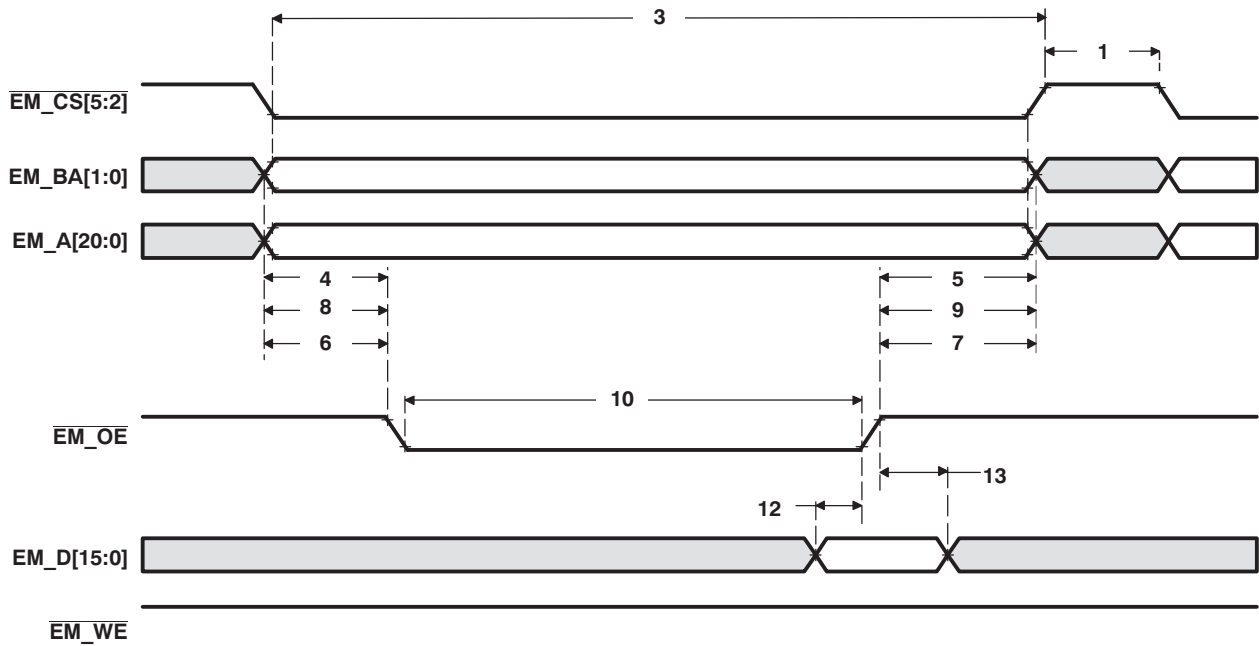
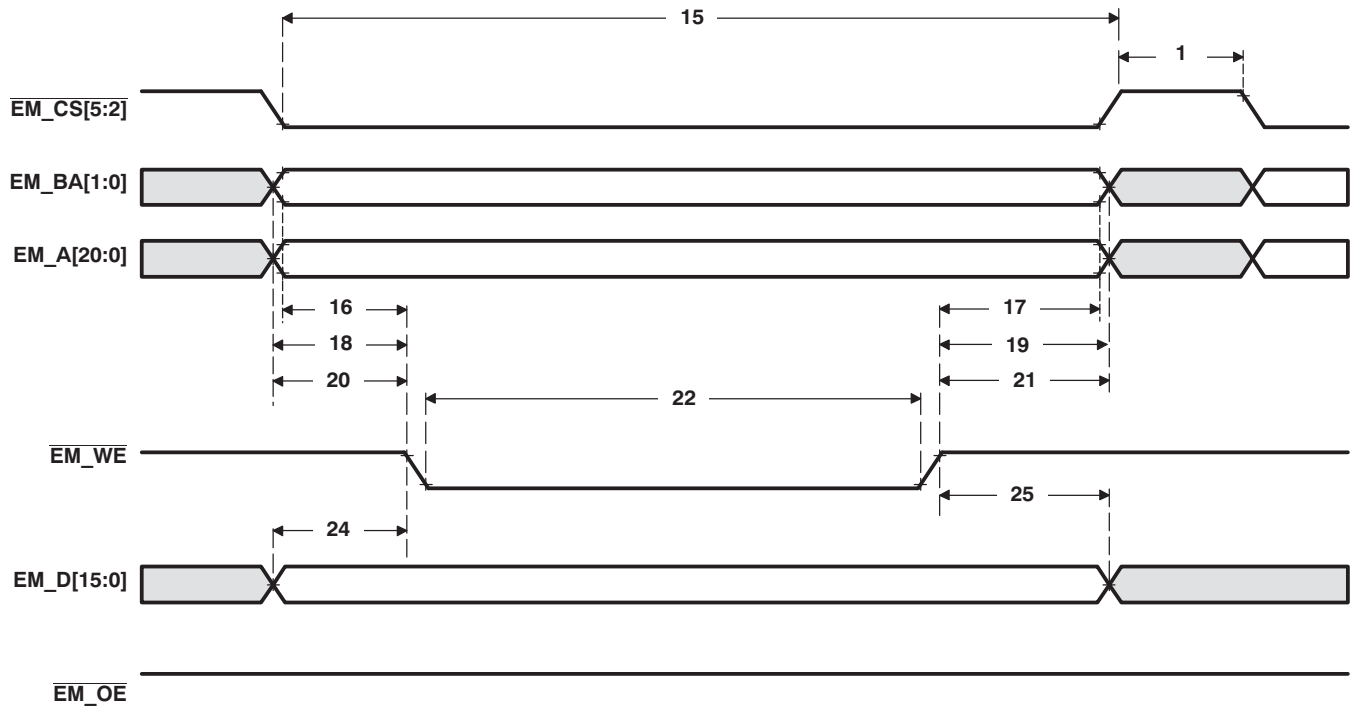
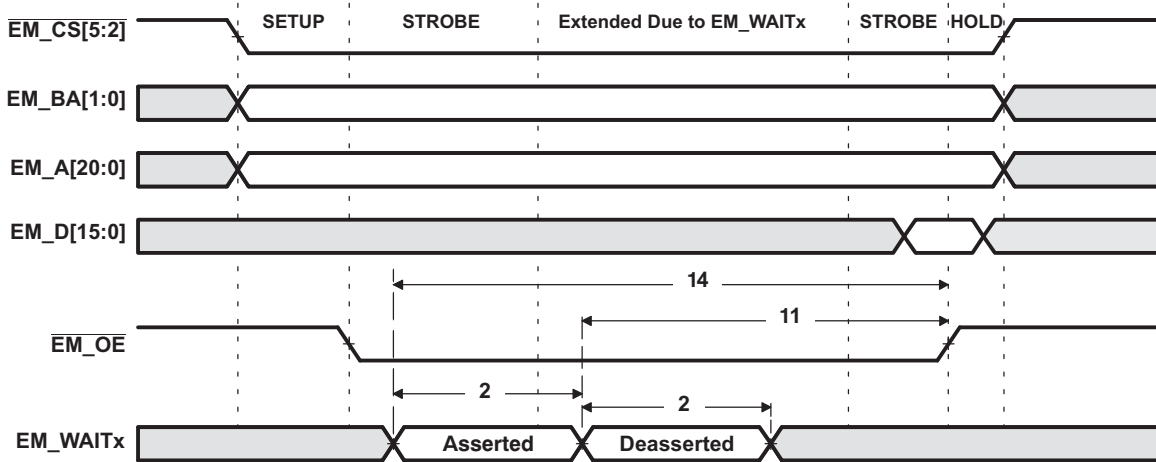
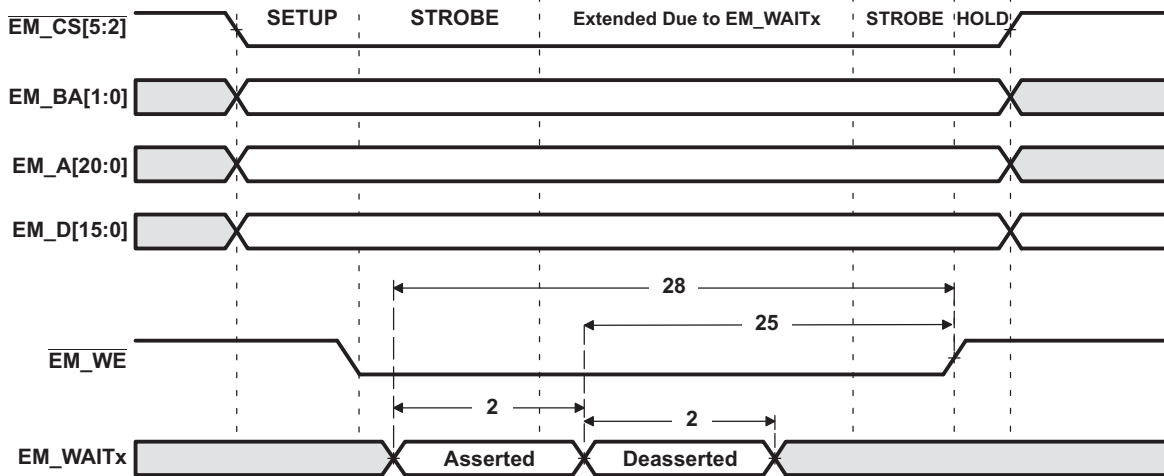

Figure 5-18. Asynchronous Memory Read Timing for EMIF
Figure 5-19. Asynchronous Memory Write Timing for EMIF
Figure 5-20. EM\_WAITx Read Timing Requirements
Figure 5-21. EM\_WAITx Write Timing Requirements
(1) Timing parameters are obtained with 10pF loading on the EMIF pins.
(2) TA = Turn around, RS = Read setup, RST = Read strobe, RH = Read hold, WS = Write setup, WST = Write strobe, WH = Write hold, MEWC = Maximum external wait cycles. These parameters are programmed via the Asynchronous Configuration and Asynchronous Wait Cycle Configuration Registers.
(3) E = SYSCLK period in ns. For example, when SYSCLK is set to 100/120 MHz, E = 10/8.33 ns, respectively.
(4) EWC = external wait cycles determined by EM\_WAITx input signal. EWC supports the following range of values EWC[256-1]. Note that the maximum wait time before timeout is specified by bit field MEWC in the Asynchronous Wait Cycle Configuration Register.
**Table 5-15. Switching Characteristics Over Recommended Operating Conditions for EMIF Asynchronous Memory(1)(2) (3) (see Figure 5-19 and Figure 5-21)(4) (continued)**
(2) E = SYSCLK period in ns. For example, when SYSCLK is set to 60 or 100 MHz, E = 16.67 or 10 ns, respectively. For more detail on the EM\_SDCLK speed see Section 5.9.2, EMIF Non-Mobile and Mobile Synchronous DRAM Memory Supported.
(3) When  $V_{DD} = 1.3\text{ V}$ , and  $DV_{DDEMIF} = 3.3\text{ V}$ , 2.75 V or 2.5 V, the max clock frequency on the EM\_SDCLK pin is limited to 100 MHz (EM\_SDCLK = 100 MHz). For more information, see TMS320C5515/14/05/04 DSP External Memory Interface (EMIF) User's Guide (literature number SPRUGU6).
(4) When  $DV_{DDEMIF} = 1.8\text{ V}$ , the max clock frequency on the EM\_SDCLK pin is limited to 50 MHz (EM\_SDCLK = 50 MHz). For more information, see TMS320C5515/14/05/04 DSP External Memory Interface (EMIF) User's Guide (literature number SPRUGU6).
**Table 5-18. Timing Requirements for EMIF Asynchronous Memory(1)(2) (see Figure 5-18, Figure 5-20, and Figure 5-21)**
- (1) Timing parameters are obtained with 10pF loading on the EMIF pins.
- (2) E = SYSCLK period in ns. For example, when SYSCLK is set to 100/120 MHz, E = 10/8.33 ns, respectively.
- (3) Setup before end of STROBE phase (if no extended wait states are inserted) by which EM\_WAITx must be asserted to add extended wait states. Figure 5-20 and Figure 5-21 describe EMIF transactions that include extended wait states inserted during the STROBE phase. However, cycles inserted as part of this extended wait period should not be counted; the 4E requirement is to the start of where the HOLD phase would begin if there were no extended wait cycles.
**Table 5-19. Switching Characteristics Over Recommended Operating Conditions for EMIF Asynchronous Memory(1)(2) (3) (4) (see Figure 5-18, Figure 5-20, and Figure 5-21)**
Table 5-19. Switching Characteristics Over Recommended Operating Conditions for EMIF Asynchronous Memory(1)(2) (3) (4) (see Figure 5-18, Figure 5-20, and Figure 5-21) (continued)